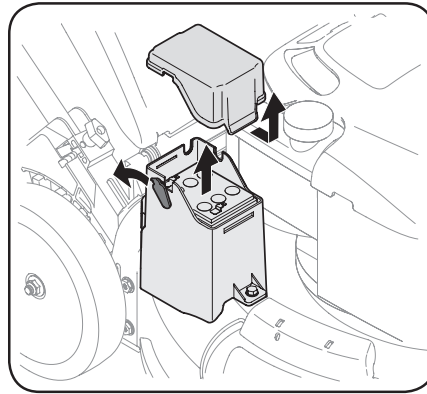

Figure 4-11
- Replace with new battery. Connect the positive lead (red) to the positive side of the battery pack, then connect the negative lead (black) to the negative side. See Figure 4-11.